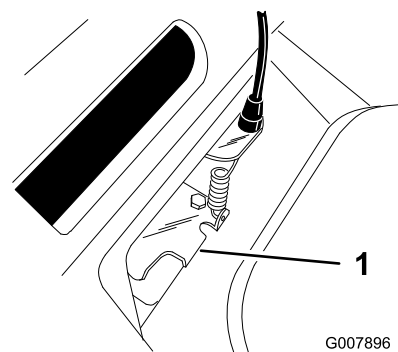

Figure 26
5. Push the belt guide tab down until it contacts the lawn mower, then hold it in place (Figure 26).